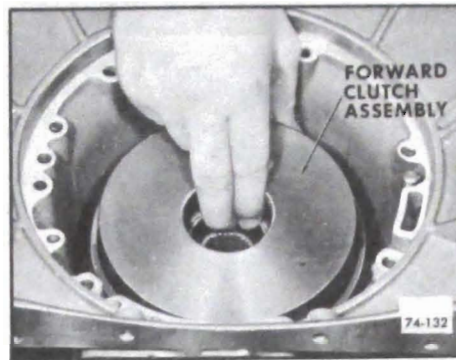

Figure 74-132
3. Remove forward clutch assembly. See Figure 74-132.